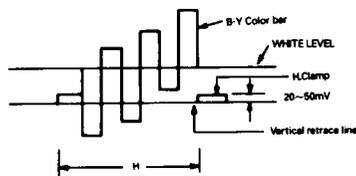

Figure 9
- Adjust L500 so that the white level in picture part may get to concur with the vertical retrace line (See figure 9)